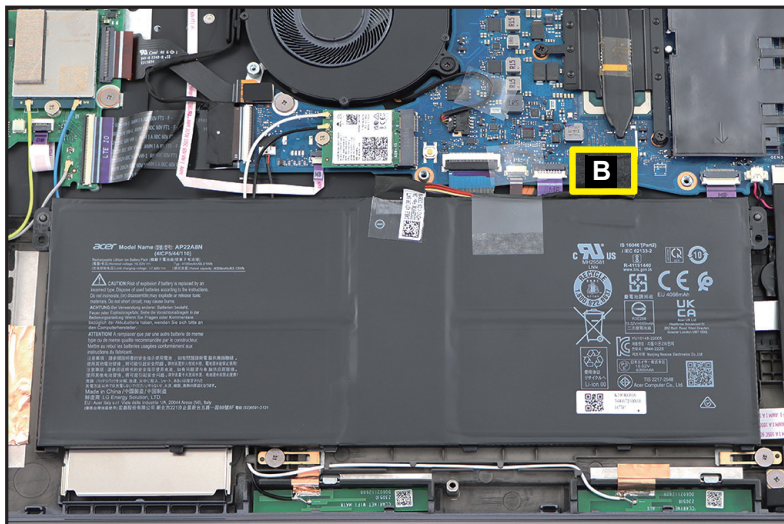

Figure 1-8. Battery Pack Removal
2. Detach the tape (B) securing the battery cable connection (Figure 1-8).